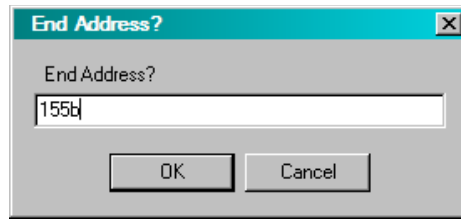

Figure 3-14. End Address Window
6. In the End Address window, specify the end address for the NVM section and then click the OK button as shown in Figure 3-14. The following shows the end address for each NVM sector: